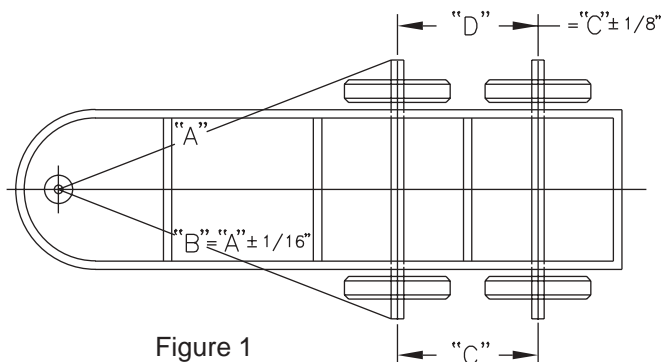

Figure 1
2. Measure from king pin to spindle center on each side. To simplify this process, plumb lines may be dropped from the king pin and from the centerline of each spindle end. Measurements "A" and "B" can then be taped on the floor to eliminate any miss measurement due to sagging of the tape long measurements. Compare A and B measurements (see Figure 1).